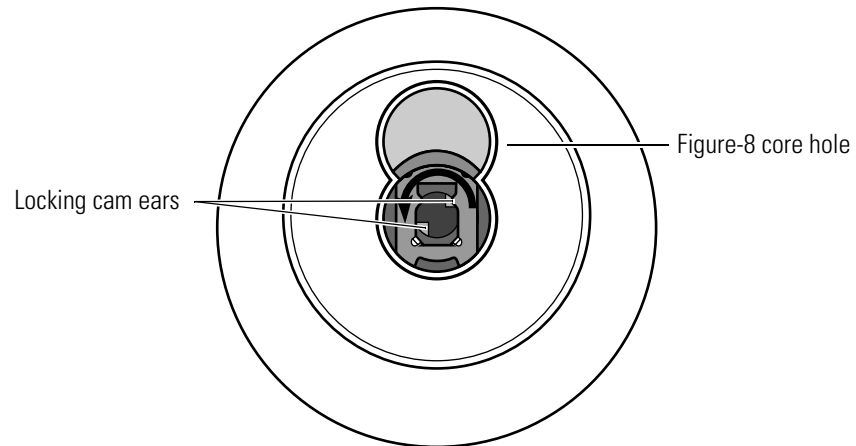

Figure 3.29 Correct position of the R, S, & T function locking cam
- Before you install the core and throw member, you can see that the locking cam is not positioned as shown in Figure 3.29. Perform the following steps to reposition the locking cam.
1. Be sure the locking cam, which engages the throw member, is rotated counterclockwise. Looking into the figure-8 core hole in the knob, turn the locking cam ears counterclockwise to match the position shown in Figure 3.29.